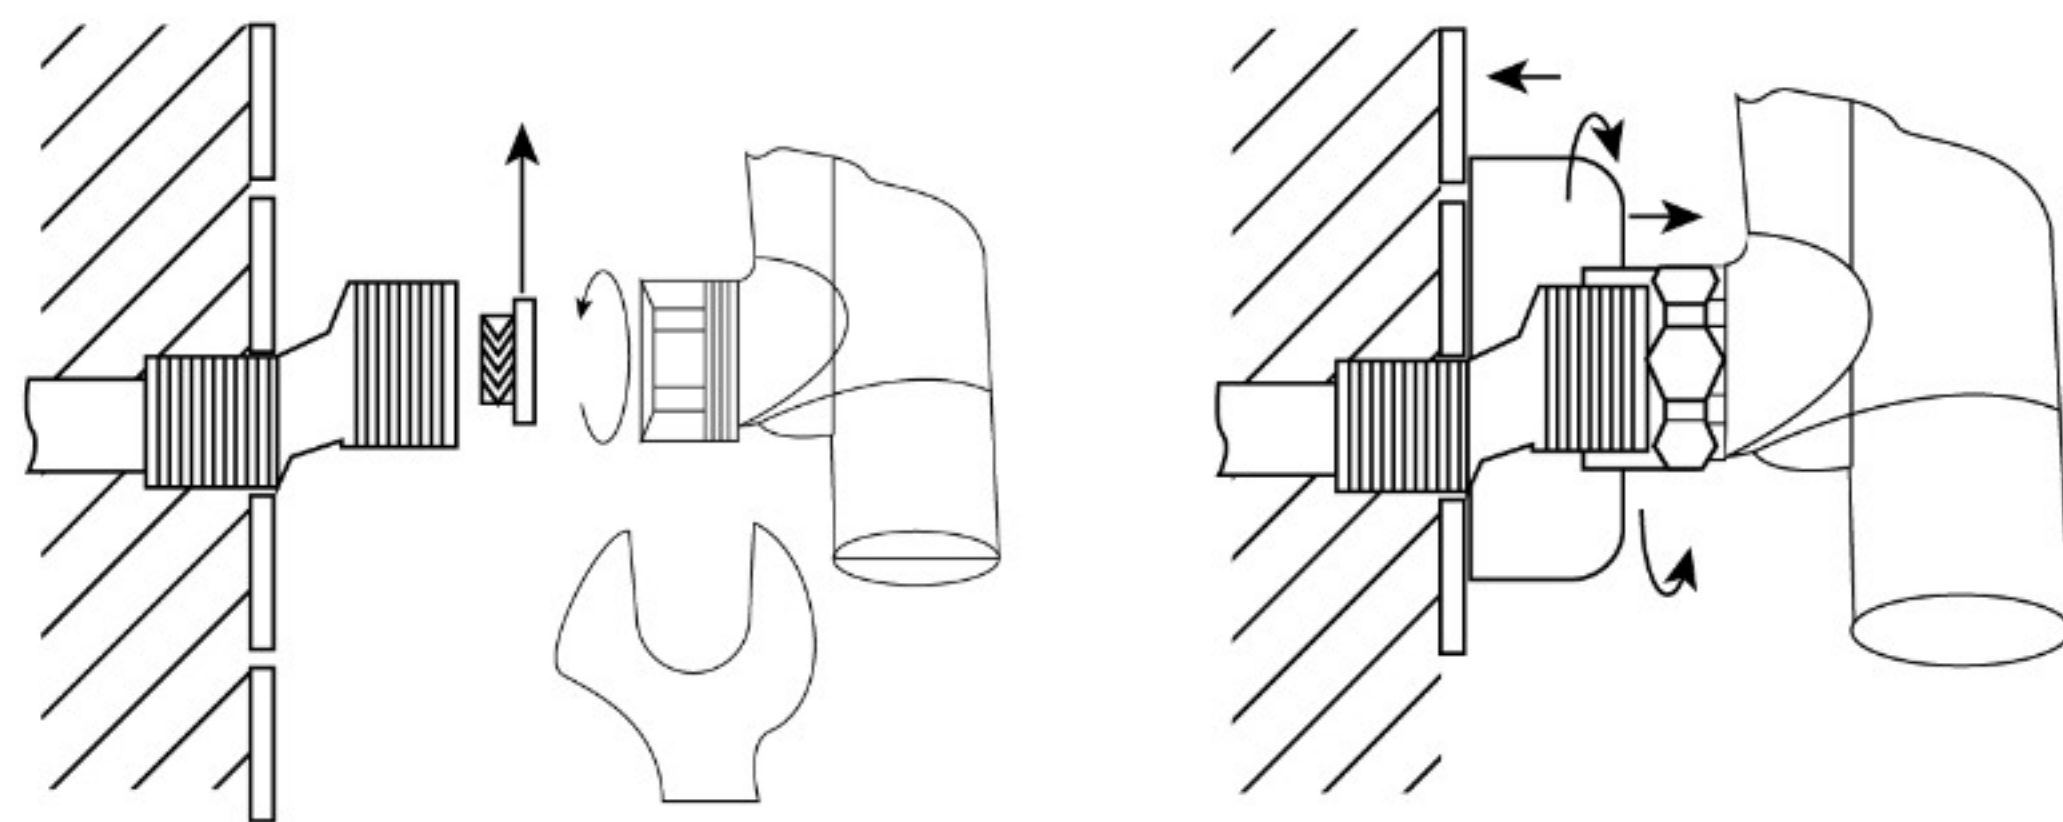

Figure3.
- c. Fit the mixer into the escutcheon plates and hand-tighten the water flow control knobs onto the pipes. Use an adjustable wrench to tighten the knobs as shown in Figure 3.